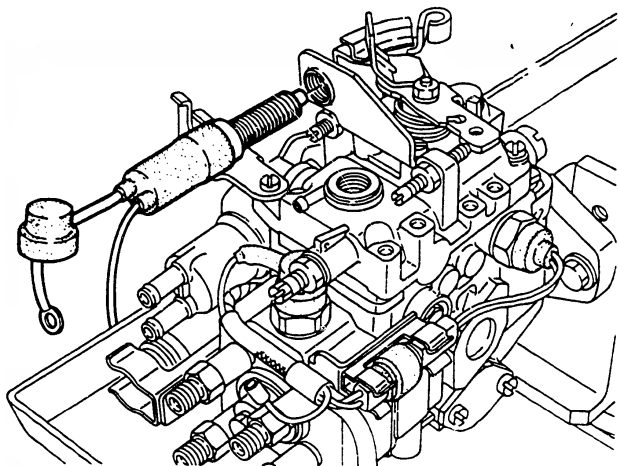

Fig. 191 Removing the accelerator switch
4. Remove the accelerator switch (223) from the bracket (230). (Fig. 191)